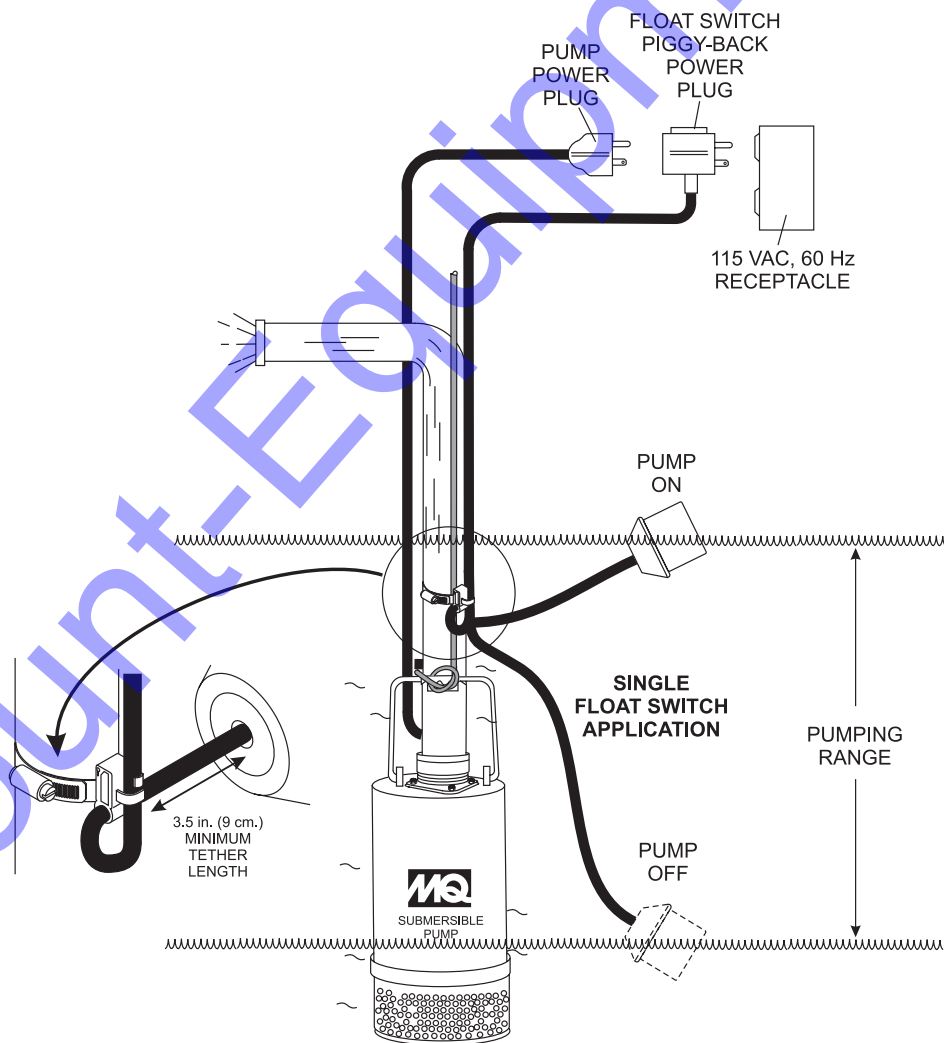

Figure 6. Single Float Switch Application Diagram
Single or **dual** control float switches (Figure 6) can be used for the unattended operation of the submersible pump. When using the **piggy-back power configuration** (plug), the pumps **DO NOT** require the use of a control box. In this configuration (piggy-back), the SW-1 (single float switch) or SW-2 (dual float switch) are required. The illustration below is an example of a single float switch application.
1. Determine the required **cord tether length** as shown in Figure 6 and Table 3.
2. Place the cord into the clamp as shown in Figure 6.
Figure 6 shows a **single float** switch application. For dual float switch capability use a **Model SW-2** mercury type float switch.
2. Connect the float switch or switches to the AC power receptacle as shown in Figure 6.
1. Remove the float switch input connector housing, then route the float switch wires through the cable gland on the control box. Attach the wires of the float switch to the terminal block as indicated by Table 5. and Figure 6.